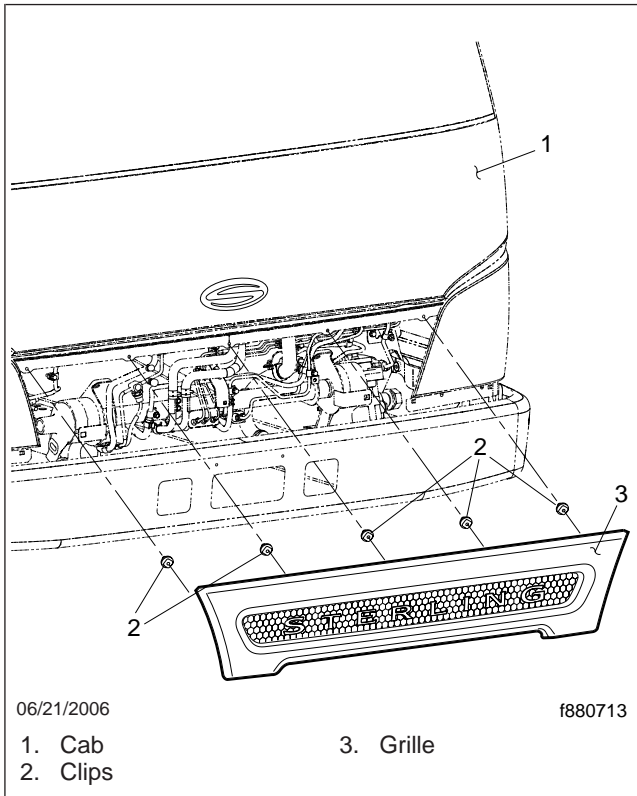

Fig. 2, Clip Removal and Installation
3. Remove and discard the five clips along the upper edge of the grille. See Fig. 2.